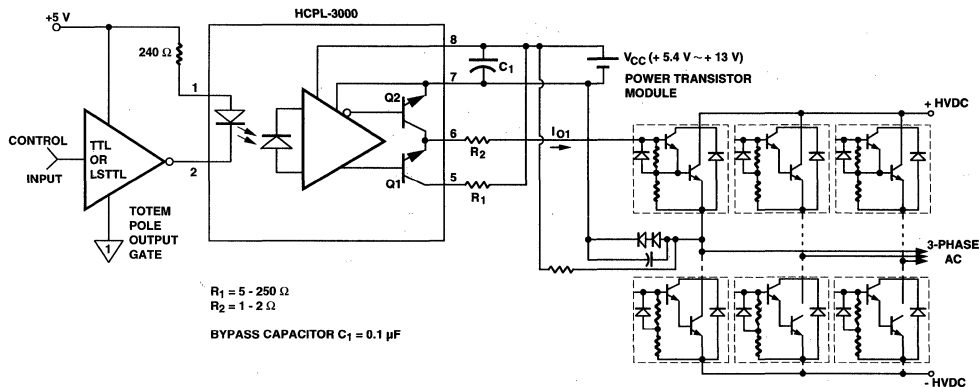

Figure 1. Recommended Output Transistor Protection and Typical Application Circuit.
amounts of current. Figure 1 describes a recommended circuit design showing current limiting resistors R_1 and R_2 which are necessary in order to prevent
- R_1 sets the base current (I_{O1} in Figure 1) supplied to the power bipolar device. R_2 limits the peak current seen by Q2 when the device is turning off. For more applications and circuit design information see Application Note "Power Transistor Gate/Base Drive Optocouplers."